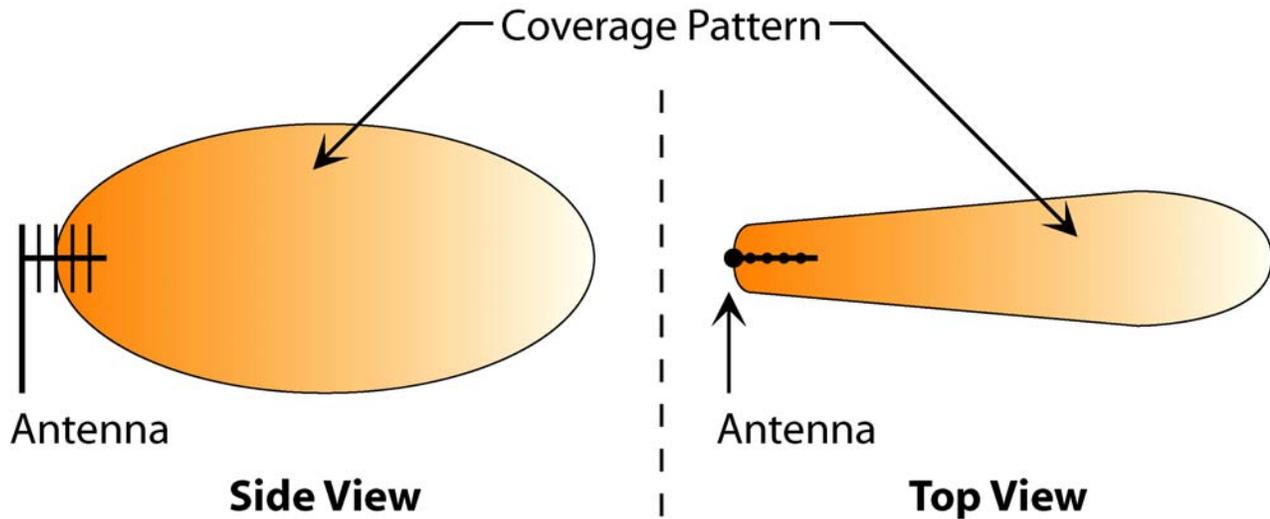

Figure 11: Yagi Antenna Point-to-Point Coverage Pattern
13.9 db Gain, Directional Yagi – Intended for use in outdoor, point-to-point applications such as between distant buildings. The coverage distance is approximately twice that of the rubber-ducky – 110 meters (360 feet) using one Yagi antenna (with the Yagi antenna at the remote site) and up to 200 meters (650 feet) with Yagi antennas used at both ends. However, the coverage area is limited to a very narrow, line-of-sight, antenna-to-antenna pattern (see Figure 11 on page 13). A Yagi antenna cannot be used as a general replacement for the standard, rubber-ducky antenna.